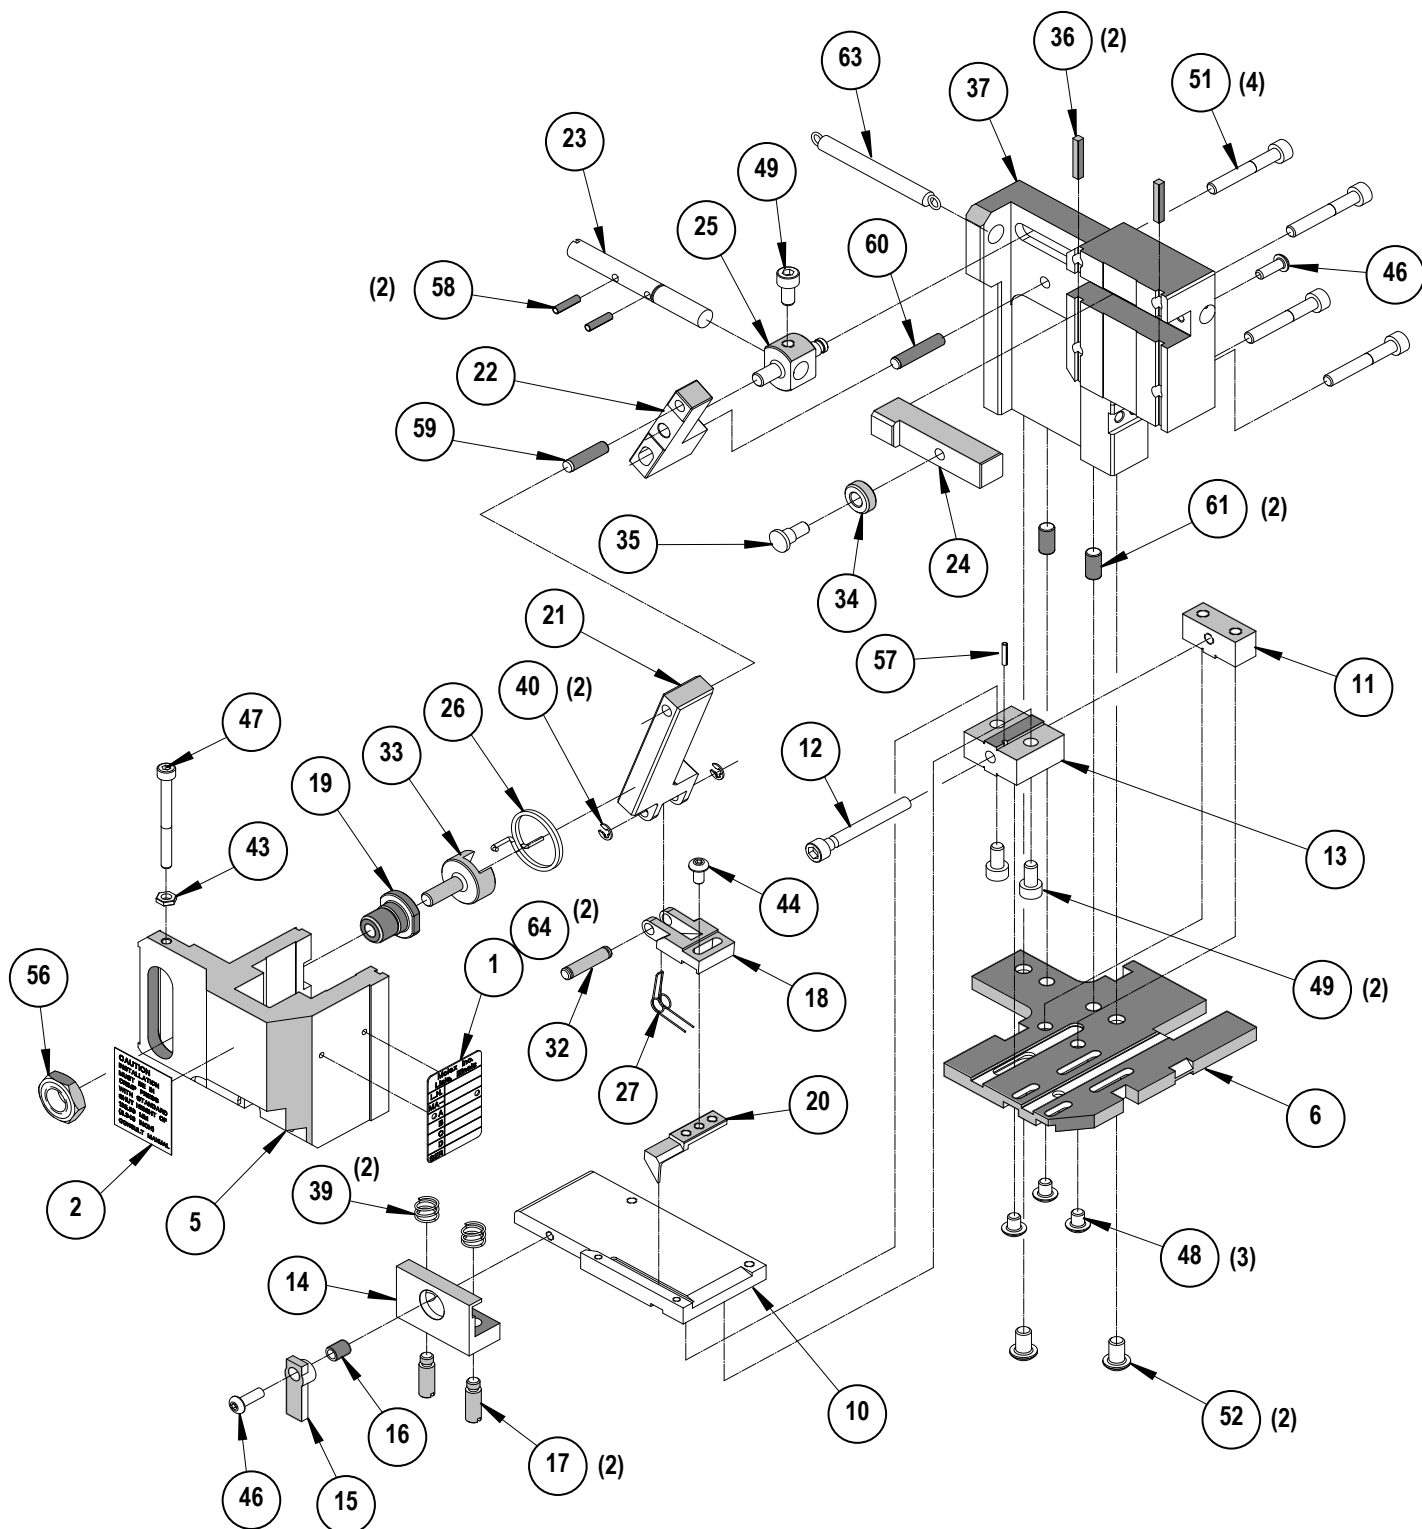

Figure 4-1B
**VERSION 1** Parts List and Assembly Drawings (See Figure 4-1B and 4-2B)